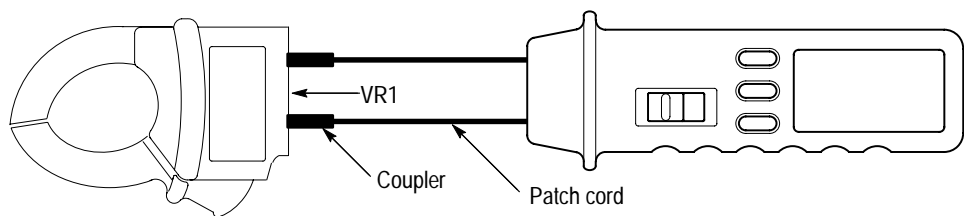

Figure 2: Adjustment location
1. Connect the CMM150 to the DMM150 as shown in Figure 2.